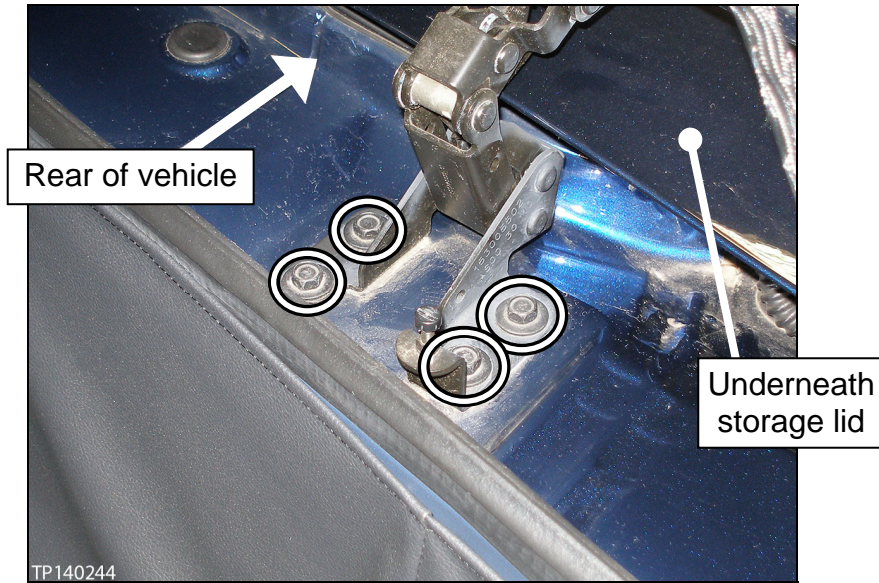

Figure 4
3. Adjust both storage lid hinges 0.5 mm (0.020 inches) toward the rear of the vehicle (see Figure 4).